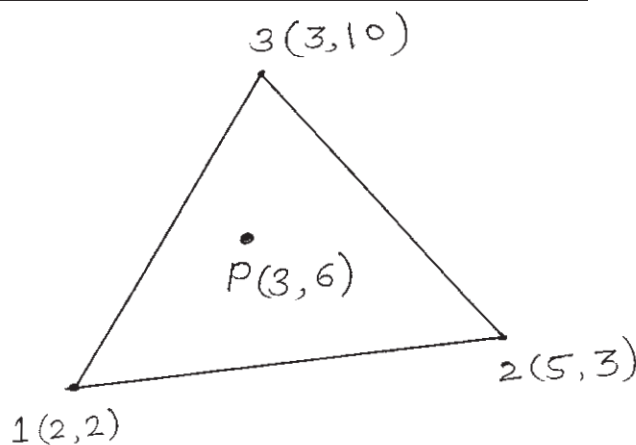

Figure 4.1
b) The iso-parametric shape functions for CST element as shown in figure 4.1 are given as $N_1 = \zeta$, $N_2 = \eta$, and $N_3 = 1 - \zeta - \eta$. Evaluate shape functions at interior point P. Also, if temperatures at node 1,2 and 3 are 25° , 30° , and 50° respectively, evaluation the temperature at the interior point P.[10]